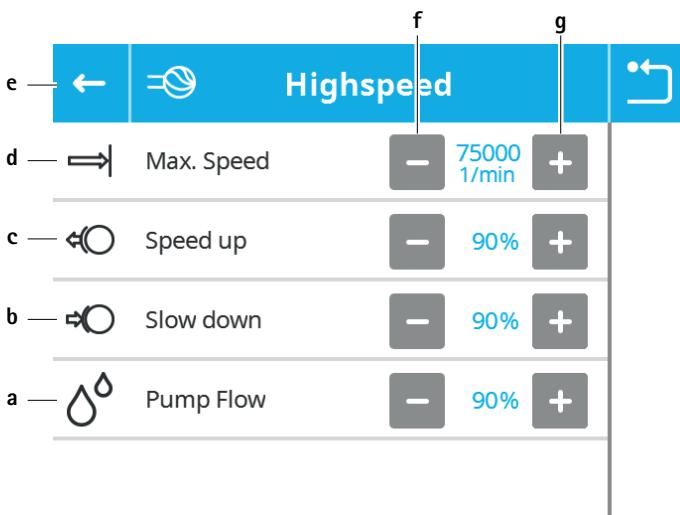

Fig. 10 Motor settings – Selected applied part type
- The submenu for the applied part type selected opens, see Fig. 10.